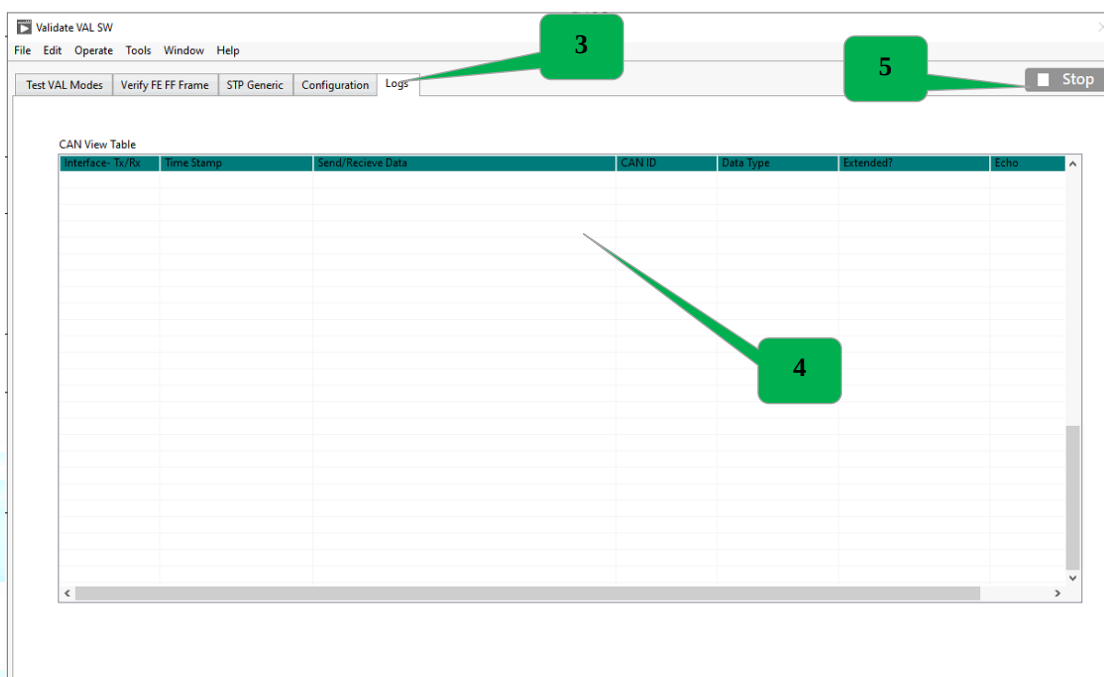

Figure 59: CAN Log Read
- 2) Click the CAN Diagnostic Button and Refer Fig 59.